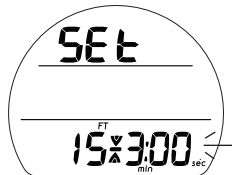

Fig. 30C - SET SS
- >> If SS ON is selected (Fig. 30C), Stop Depth and Time is displayed with the min and sec icons, Time flashing.